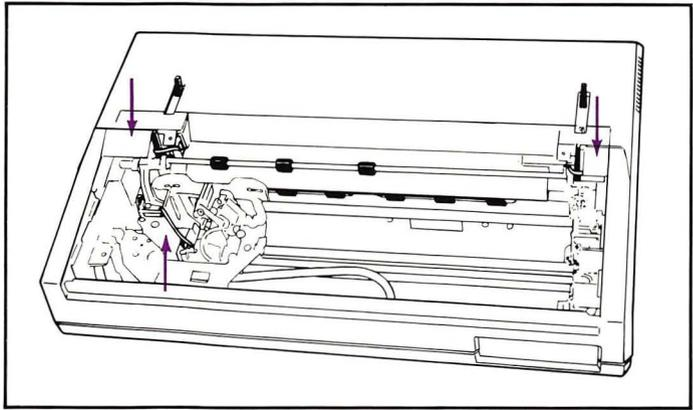

Figure 2. Tie-down Locations
6. Cut and remove the rubber bands that serve as tie-downs to hold the paper bale and carriage firmly in place. Figure 2 shows their locations. Be very careful not to damage any printer parts.